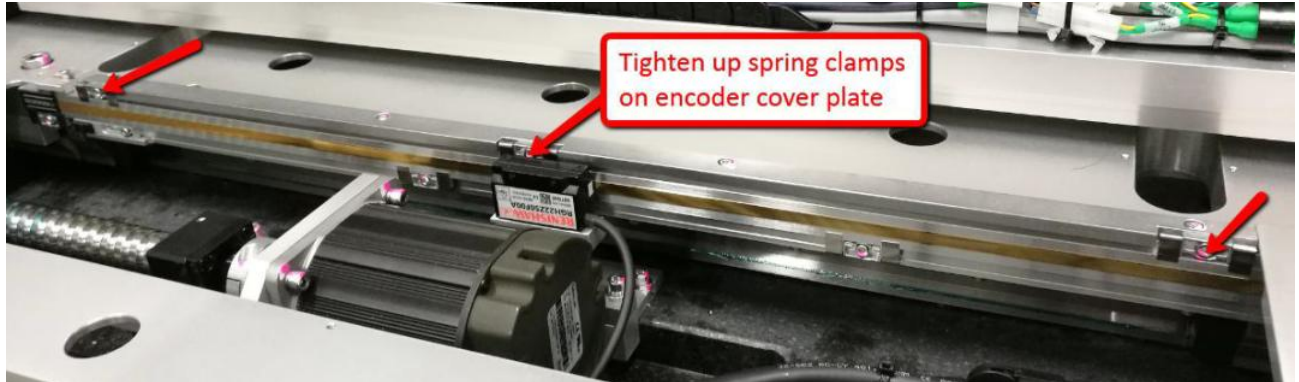

Figure 12 Cover plate assembly
6. Tighten all screws which secure spring clamps on encoder cover plate as shown in Figure 12.